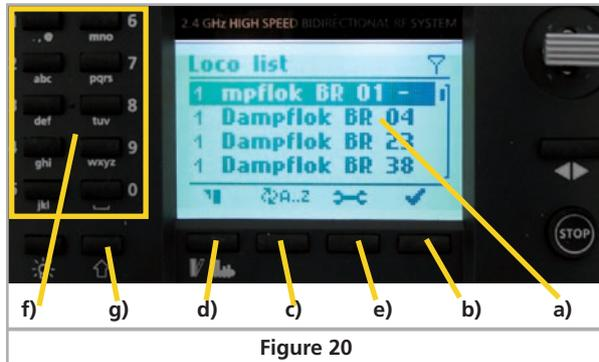

Figure 20
- g) Shift: The shift mode can be switched by pressing the „Shift“-key (fig. 20 g). Normally the functions 1-11 are displayed and in „Shift“ mode the functions 11-20 can be seen. Pushing the